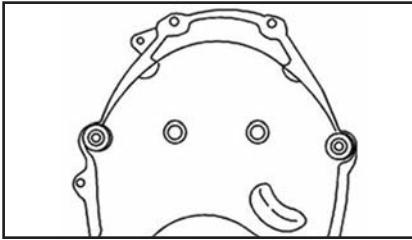

Figure 6 Tighten bolts to 106 in.lbs..
11. Install the engine front cover and place a washer under the two center cover bolts that extend through the tensioner bracket. These washers are required to maintain the proper crush on the engine front cover seal (see **Figure 6**, above). Tighten the bolts to 106 in.lbs.. (12 Nm).